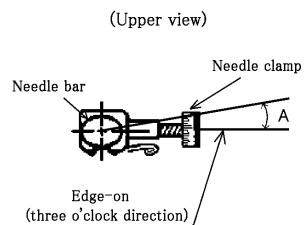

Fig.3
2. Check the needle clamp position.(Fig. 3)
3. When seeing from the top, measure the angle (A) in the figure.(Fig. 3)
Just beside when seeing from the top (Fig. 3)
A = 0° to 1.5° (Fig.3)